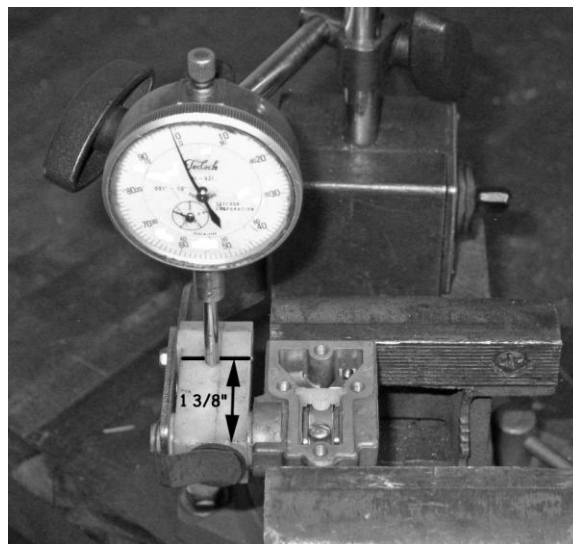
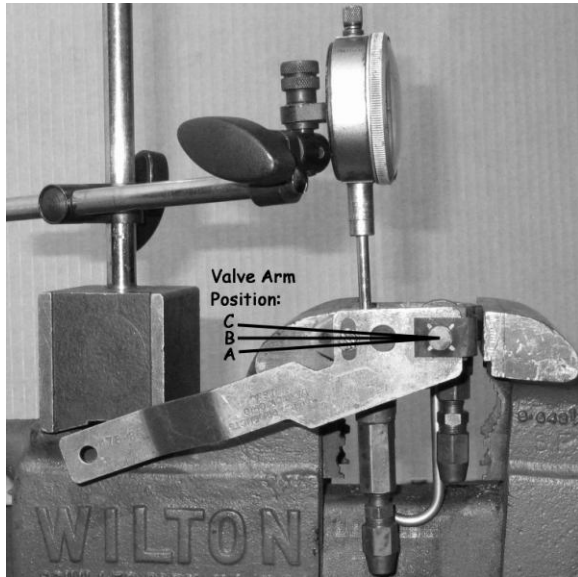

Figure 2
Figure 3
2. Referring to the figure 2, scribe a line 1-3/8" from plug end of overtravel lever control body.
3. Place valve assembly in vise as shown in figure 2.
6. Locate dial indicator in position as shown in figure 2. Move overtravel lever to full air exhaust position without overtraveling (position "C", figure 3). Relocate indicator push rod to just contact 1-3/8" mark on control body and reset indicator dial to zero (0) at this point (position "C", figure 3). Note: Use this indicator location for all valve measurements and adjustments.
7. Move overtravel lever to full air intake position without overtraveling (position "A", figure 3). Take indicator reading which may vary from 0.160" to 0.190"
9. Divide the total travel dimension by two (example: $0.170" / 2 = 0.085"$), then move overtravel lever back this amount (0.085") to the center (position, "B", figure 3). This is the valve true center position.